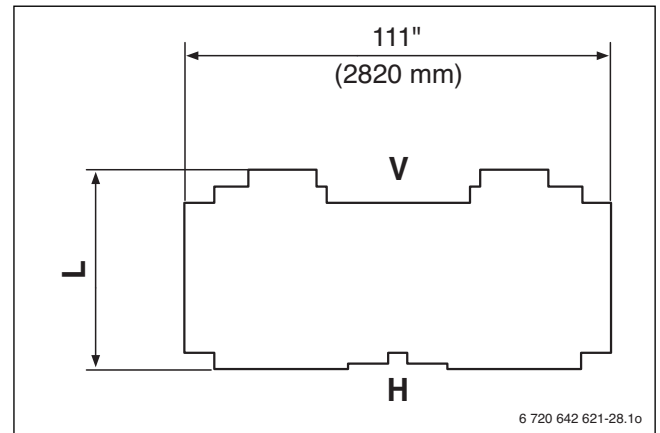

Fig. 34 Thermal insulation
- ▶ The thermal insulation provided corresponds to the boiler size (NOT DEFINED). The thermal insulation must be arranged on the boiler block as shown in Fig. 34.